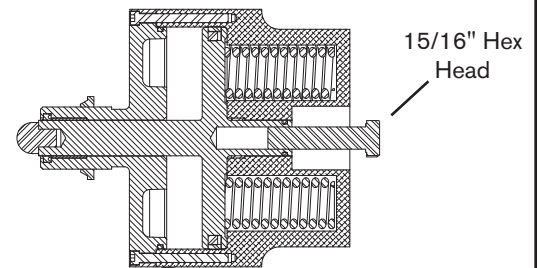

Figure 15c
2. Using a 15/16 inch socket, turn the manual release bolt counterclockwise to fully cage (compress) the spring. The spring is fully compressed when the bolt is snug (Refer to Figure 15c).